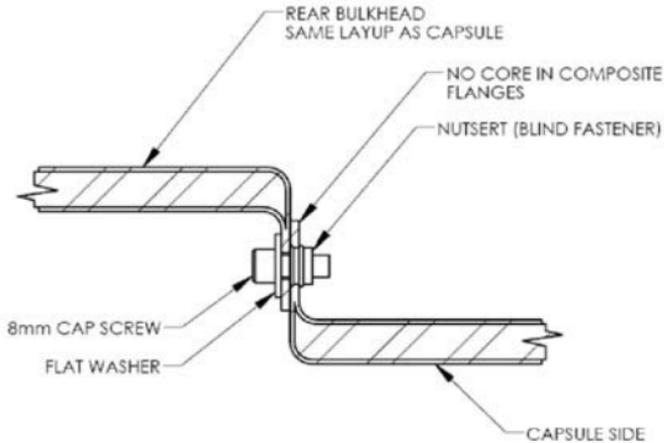

FIGURE 3
4. The bulkhead may be bolted to the capsule in order to provide access to the space behind the driver. Older boats may also be upgraded in this manner. The layup of this bulkhead shall also match that of the capsule that as has been registered with U.I.M. Bolting of the bulkhead to the capsule shall be accomplished as shown in Figure 3. A minimum of ten 8mm bolts with SAE Standard flat washers shall be used to fasten the bulkhead to the capsule. The flanges through which the bulkhead is bolted shall not have a honeycomb or foam core. Each of the flanges shall have a minimum thickness of 3 mm. To prevent corrosion of the fasteners, it is recommended that carbon fiber not be included in the layup of the flanges. If carbon fiber is included it is recommended that it be electrically insulated from the fasteners. Blind fasteners may be used.